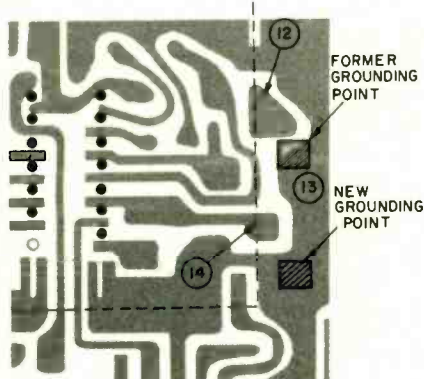

Fig. 1
1. Move the grounding point of the GRY/WHT shielded wire connected between the volume control and terminals 12 and 13 on the SC board as shown in Fig. 1.